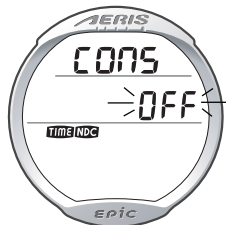

Fig. 60 - SET CONSERVATIVE FACTOR
**SET CONSERVATIVE FACTOR** information includes (Fig. 60):